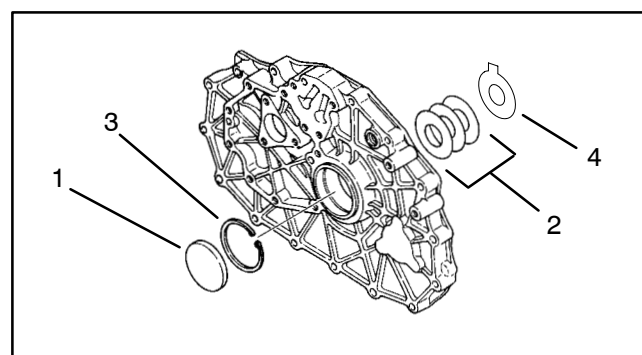

Figure 59
IMPORTANT: The center plate has one tabbed shim (Item 4) with three tabless shims (Item 2) (Fig. 59).
7. Inspect retaining ring (item 3) and shims (items 2 and 4) for damage (Fig. 59). Replace all parts if any component is cracked or broken.